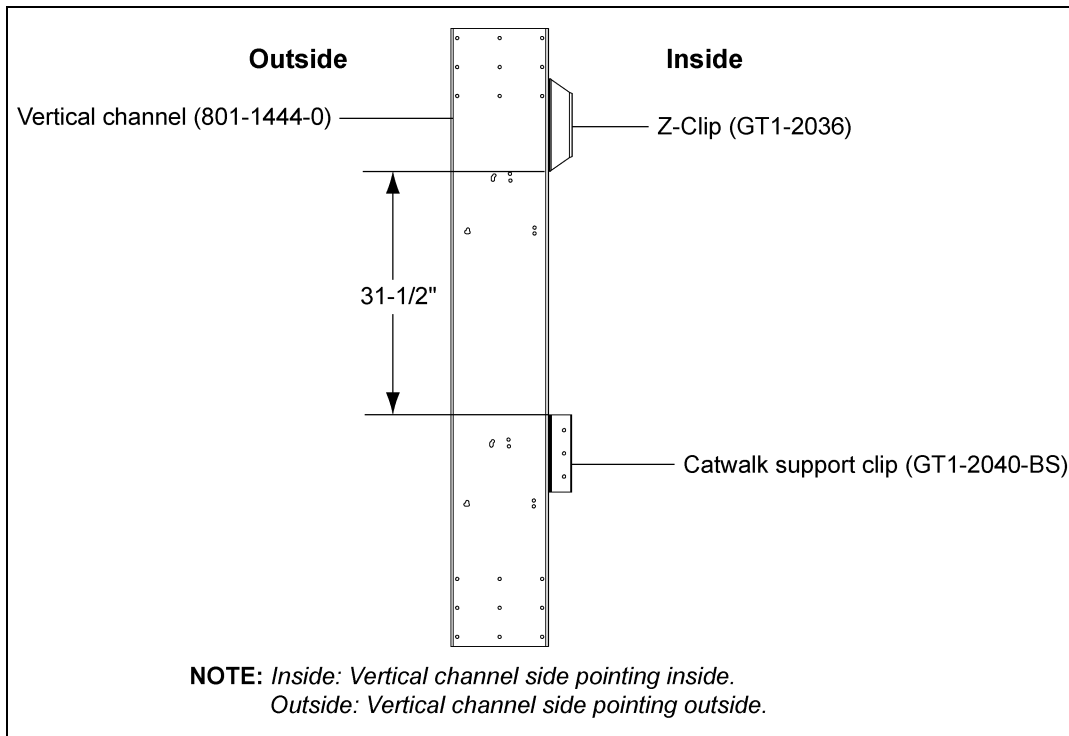

Figure 5C
2. The distance between the Z-clip and support clip for 17' inside catwalk is 31-1/2". (See Figure 5C.)